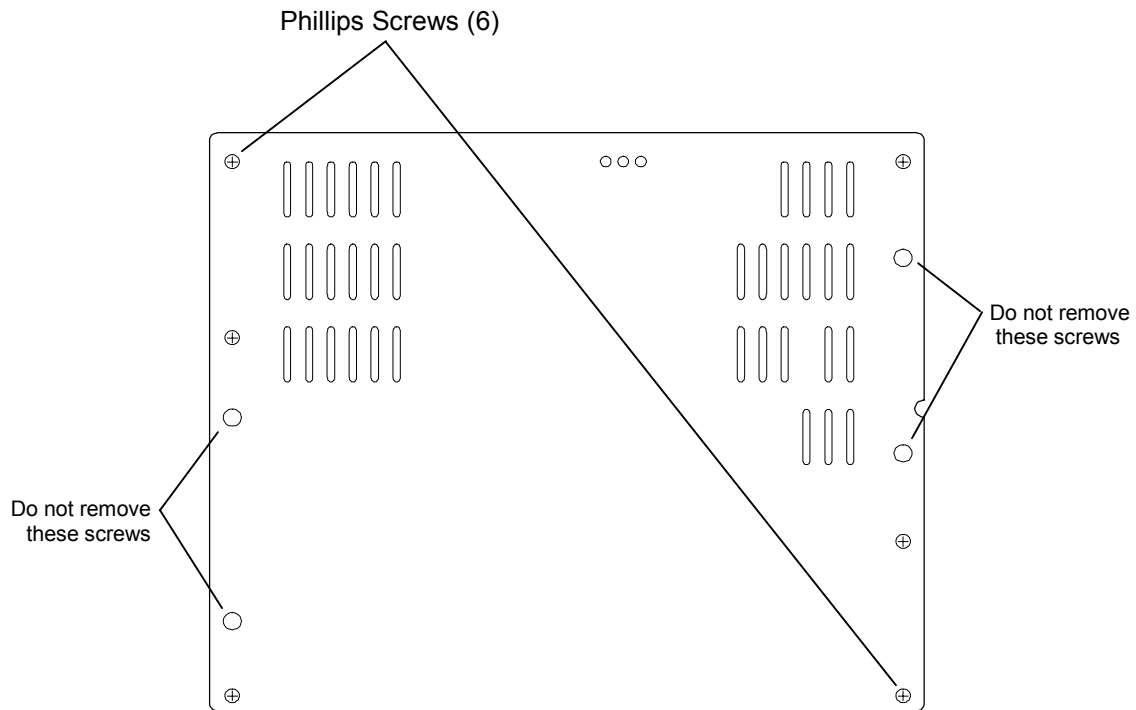

Figure 4-4 Service Panel
2. Using a Phillips screwdriver remove the six screws securing the service panel on the rear of the library – refer to Figure 4-4. Depending of the model of library, the service panel may not have ventilation slots. Care must be taken to not remove the four screws securing the heatsink panels. Save the service panel for possible future use.